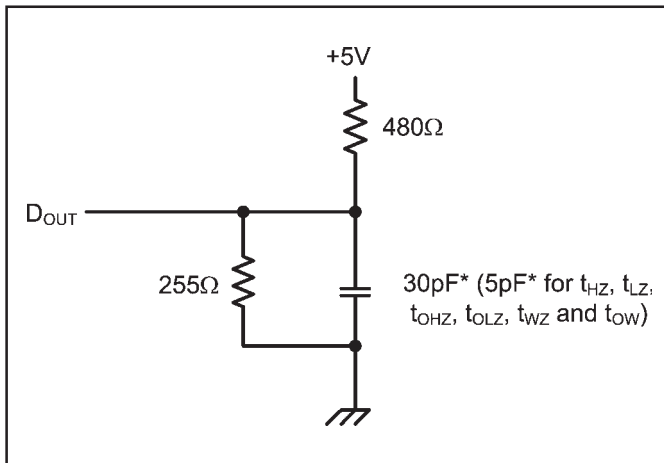

Figure 1. Output Load
9. Transition is measured  $\pm 200$ mV from steady state voltage prior to change, with loading as specified in Figure 1.
Output Load	See Figures 1 and 2